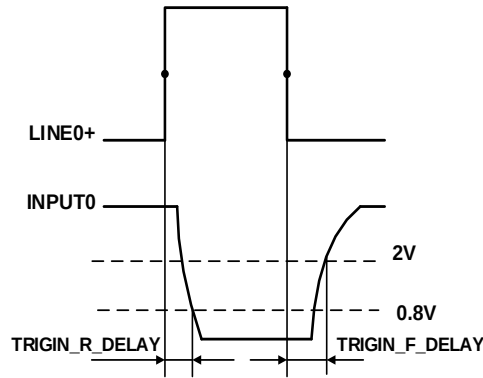

Figure 7-4 Parameter of opto-isolated input circuit
- Rising edge delay: $<50\mu\text{s}$ ($0^{\circ}\text{C}\sim 45^{\circ}\text{C}$), parameter description as shown in Figure 7-4
- Falling edge delay: $<50\mu\text{s}$ ($0^{\circ}\text{C}\sim 45^{\circ}\text{C}$), parameter description as shown in Figure 7-4